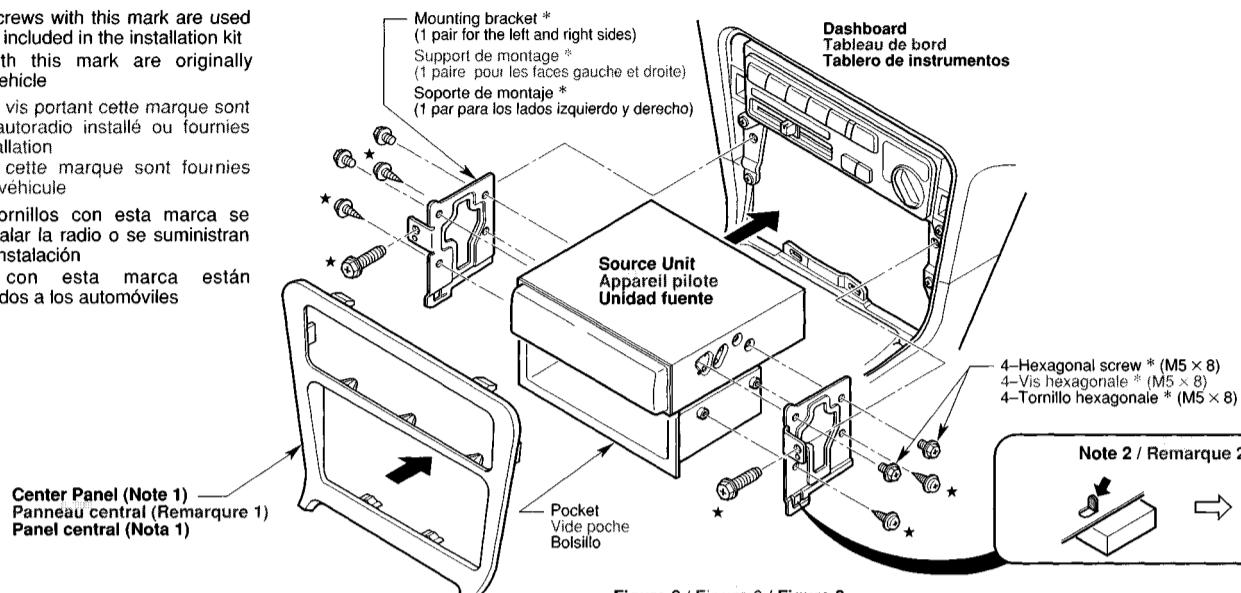

Figure 6 / Figure 6 / Figura 6
This unit is designed for fixed installation in the dashboard. If the vehicle is equipped with a factory-installed radio, install the source unit with the parts and screws marked (*) (Figure 6). If the vehicle is not equipped with a factory-installed radio, obtain an installation kit to install the source unit in the following procedure.
- Secure the mounting brackets to the chassis as shown in Figure 6. Holes are pre-tapped for TOYOTA and NISSAN vehicles; modification, such as drilling new holes, of the mounting brackets may be required for other models.